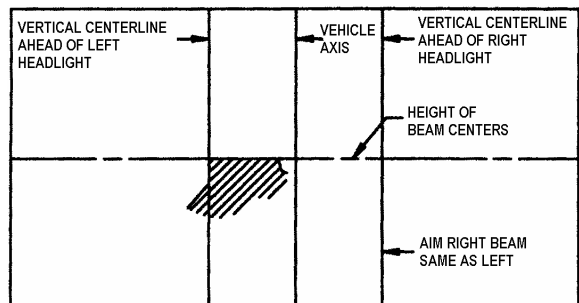

FIGURE 36: HIGH-INTENSITY ZONE (SHADED AREA) OF A PROPERLY AIMED LOWER BEAM ON THE AIMING SCREEN 7.6 M (25 FT) IN FRONT OF VEHICLE
- 6. Low beam headlights are aimed so that the top edge (the cutoff) of the high-intensity zone is at the vertical location as per Table 1 and the left edge of the high-intensity zone is at the vertical centerline of the headlight (Fig. 36).